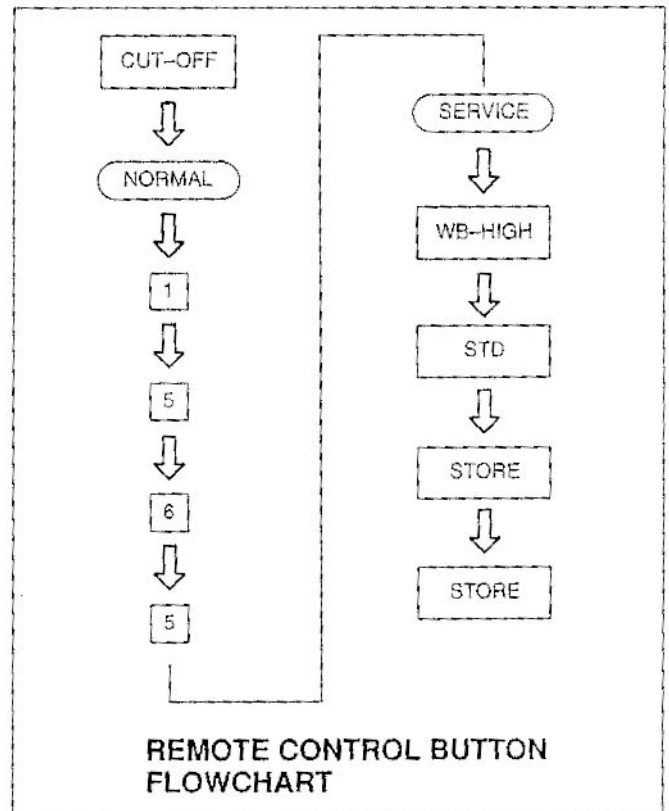

Fig. 25
16. Press the buttons on the remote controller as shown in Fig. 25 below.